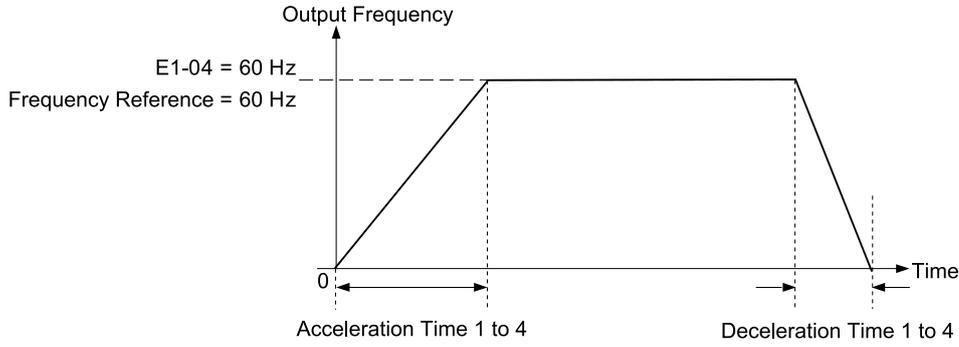
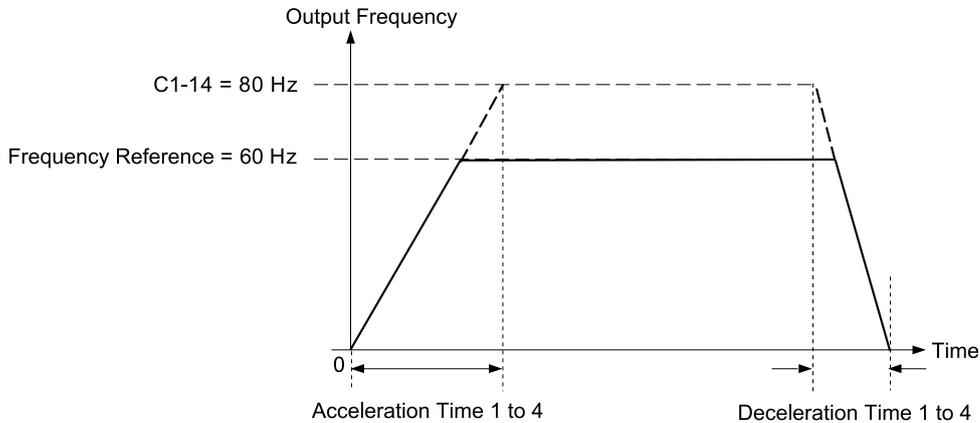

Figure 11.48 Example 1: Acceleration/Deceleration Rate (When C1-14 = 0 Hz, E1-04 = 60 Hz, and the Frequency Reference is 60 Hz)
Figure 11.50 Example 3: Acceleration/Deceleration Rate (When C1-14 = 80 Hz, E1-04 = 60 Hz, and the Frequency Reference is 60 Hz)
- Figure 11.48 to Figure 11.50 show the accel/decel times when C2-01 to C2-04 [S-Curve Times @ Start/End of Accel/Decel] = 0.00 s.